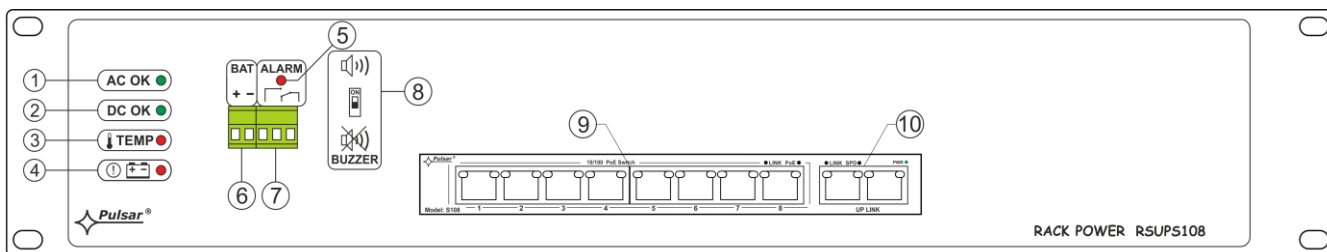

Fig. 2. The front power of the power supply unit.
**Table 1. (See Fig. 2)**
Element no. [Fig. 2, 3]	Description